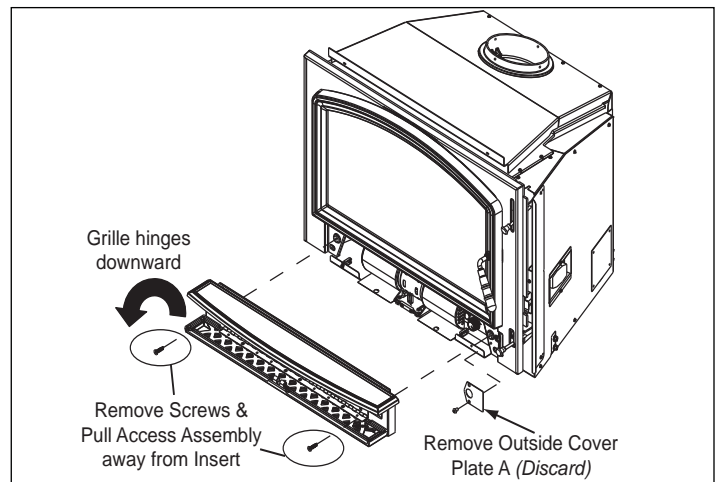

Figure 18.1
1. Swing grille down to expose the two screws. **Figure 18.1.**